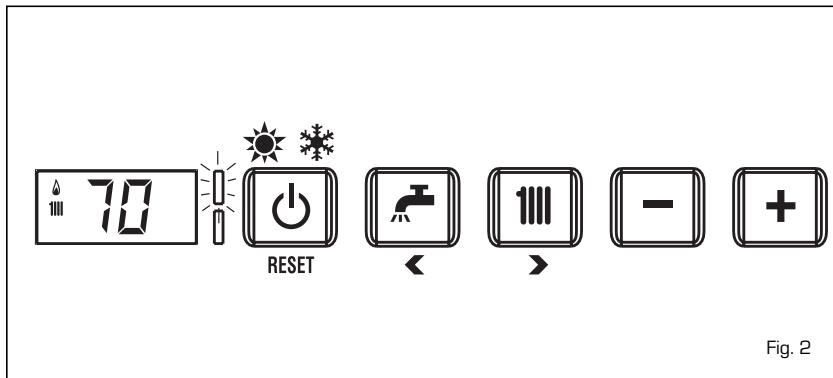

Fig. 2
**Regulation of the external sensor (fig. 2/a)**